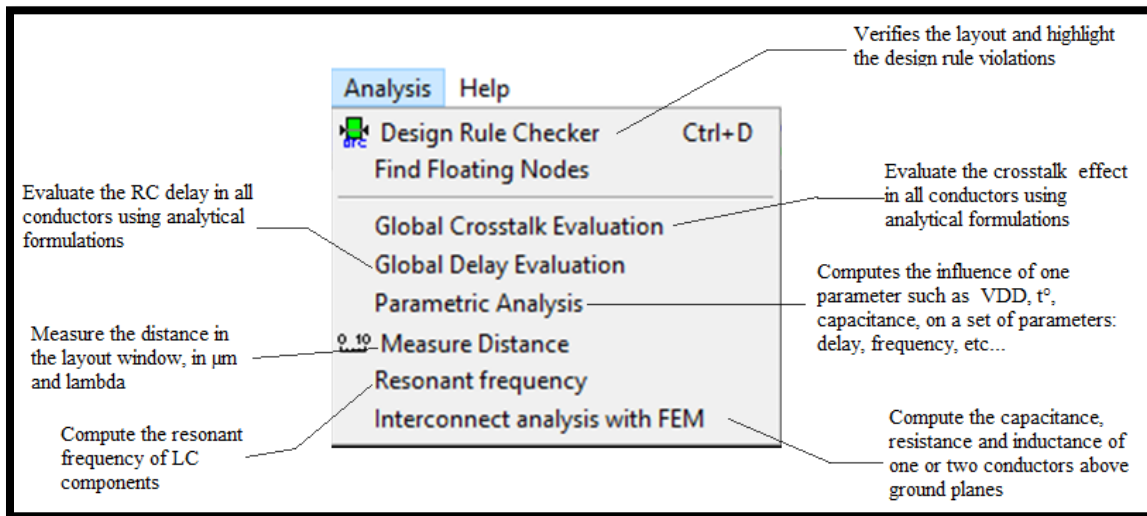

Figure 16: Analysis Menu
- Click on the NMOS transistor from the symbol library and place it in the editor window. As you see in the figure 16 below.